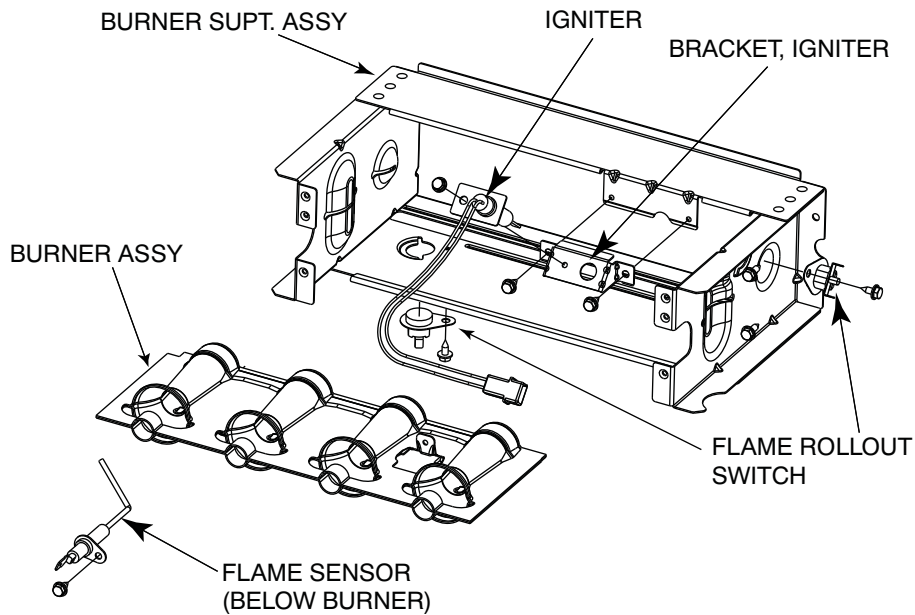

Fig. 70 - Burner Assembly
6. Remove screws attaching burner assembly to cell panel. See Fig. 70.